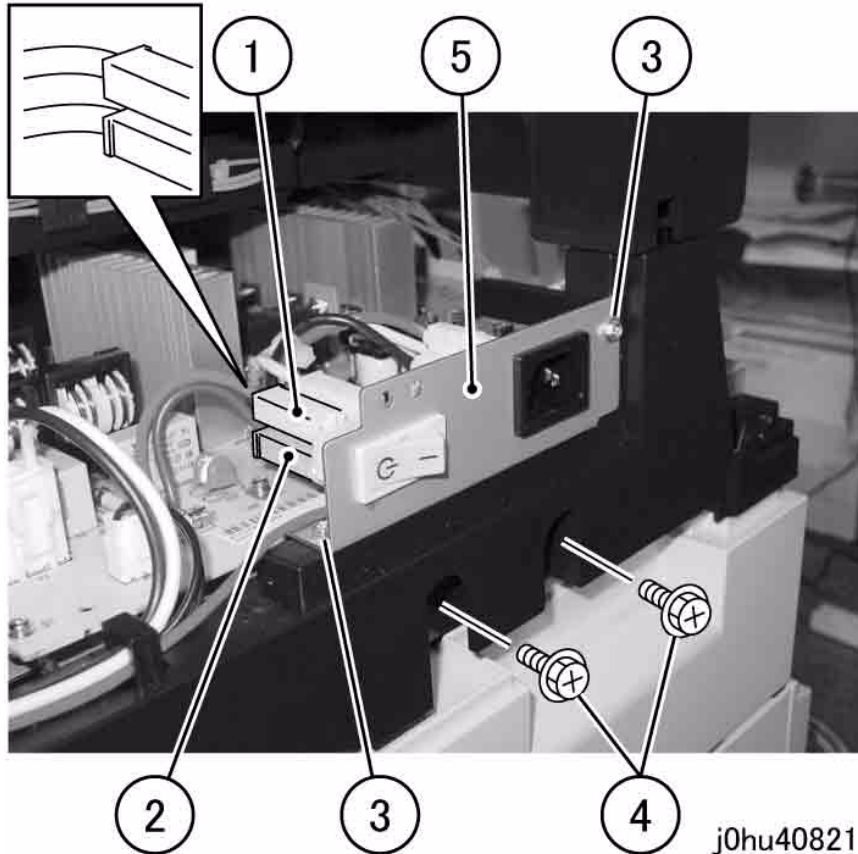

Figure 3 Move the Inlet Bracket
6. Move the Inlet Bracket (Figure 3).